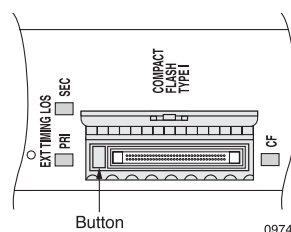

Figure 37 Ejector for External Storage-Device in XCRP4 Controller Card
3. If you are removing the device in an XCRP4 Controller card, press the ejection button that is inside the CF slot (see Figure 37) twice (first to cause the button to protrude from within its recess and second to disengage the device from its connectors).